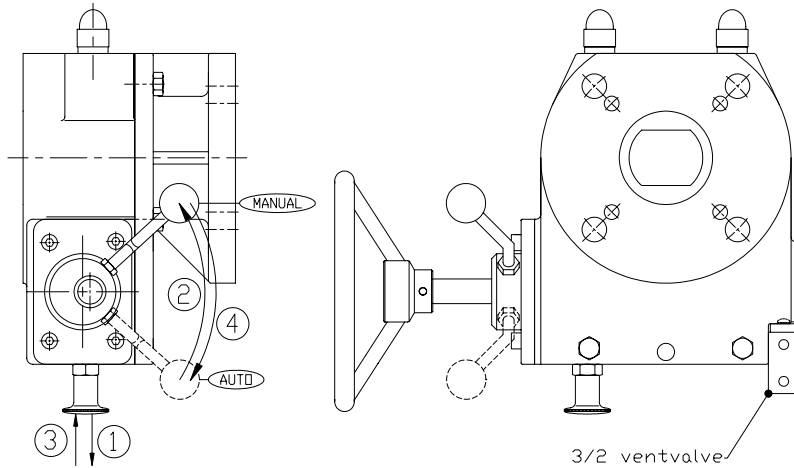

Figure 5 : ILG/D gearbox
- Prior to manual operation, the gearbox has to be put into manual mode. To achieve this, refer to figure 5 and follow the next points :
- i. Pull the knob outwards (1). Secure the knob in this position.
- ii. Turn the handle counter clockwise (2) and release the knob. Continue turning the handle until the knob falls back into locking position (3).